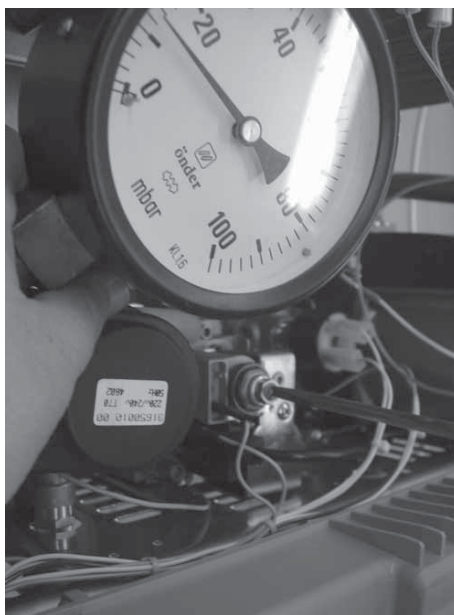

Figure 44
- Turn inner part by a plain screwdriver, **clockwise**: to increase the pressure setting, **anticlockwise**: to decrease the pressure setting. (*figure 44*)